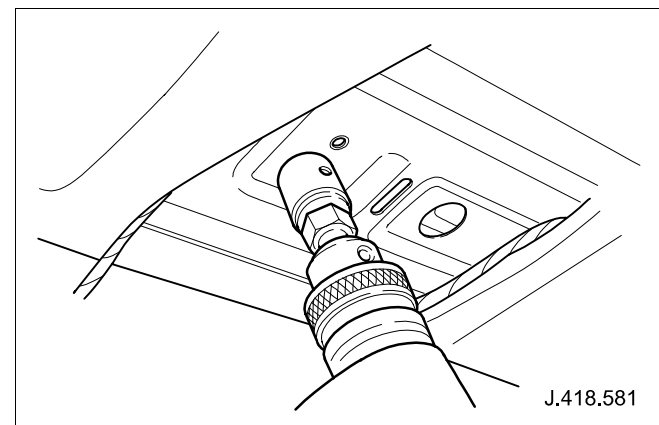

Fig. 12
- 29 Using 25mm diameter hole saw with plain rod pilot cut through roof panel strengthening skin. (See Fig. 12)